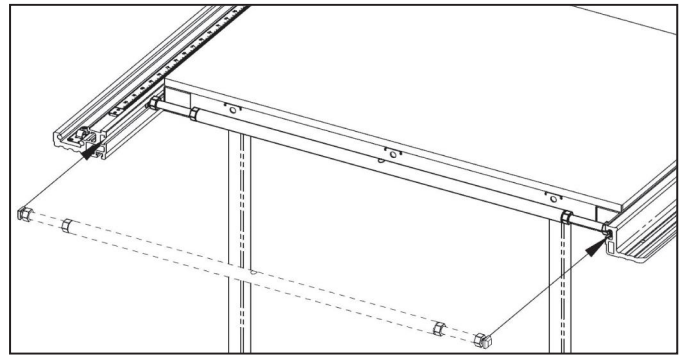

Fig. 6-13
2. As shown in Fig. 6-13, insert the eccentric screws at both ends of the Connecting Rod Assembly (E) into the T-slots of the front and rear guide rails. When the Connecting Rod Assembly nearly meets the extension table, separately turn the left and right lead screws to secure the eccentric screws. Make sure the eccentric screws are in the loosened state before sliding them into the front and rear guide rails